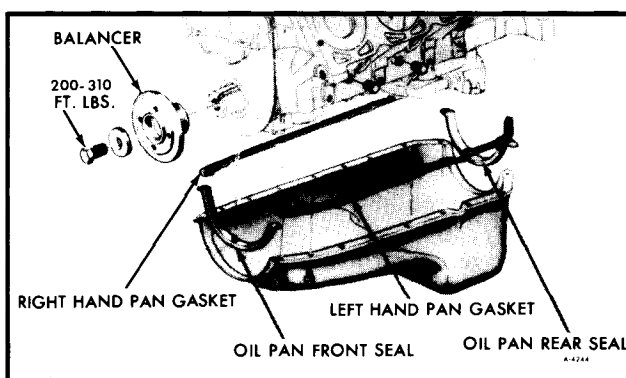

Figure 37—Oil Pan Assembly
1. Apply sealer 1050026 or equivalent to both sides of gaskets. Position all gaskets on engine block. See Figure 37.
5. Clean oil from journal bearing cap, connecting rod and outer and inner surface of bearing inserts. Position insert so that tang is properly aligned with notch in rod and cap. See Figure 37.